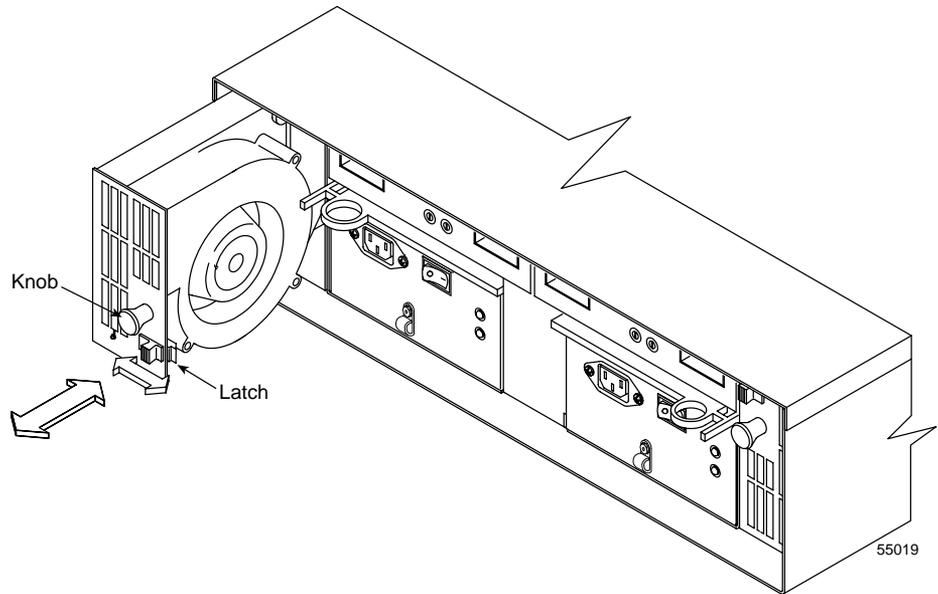

Figure 7-2 Removing and Installing a Fan Canister
6. Wearing antistatic protection, slide the latch to unlock the canister (Figure 7-2). The latch is at the bottom of the left-side fan canister, and at the top of the right-side fan canister.